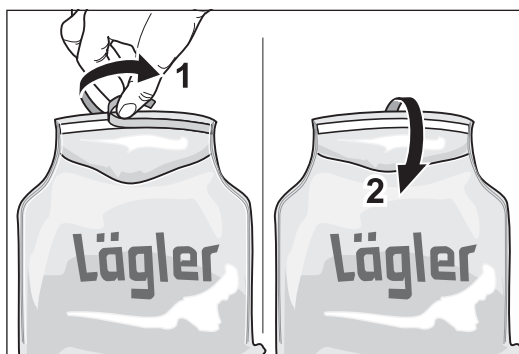

Fig. 47 Pull the cover foil from the adhesive strip (1) and seal the dust bag (2). **The dust bag must be deposited in a closed and non-combustible container!**
- 5 Pull the cover foil from the adhesive strip on flap near the opening of the dust bag (fig. 47, 1).
- 6 Fold the flap over the opening of the dust bag and seal the bag (fig. 47, 2).